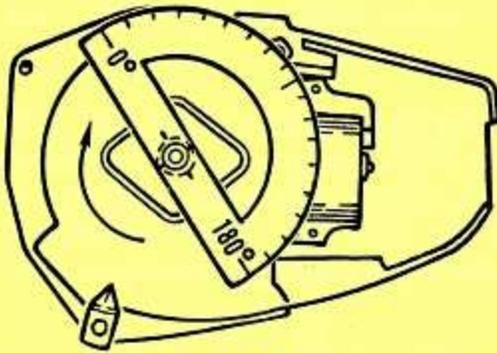

FIGURE 5
1. Turn the crankshaft clockwise until the piston hits the piston stop (Figure 5).